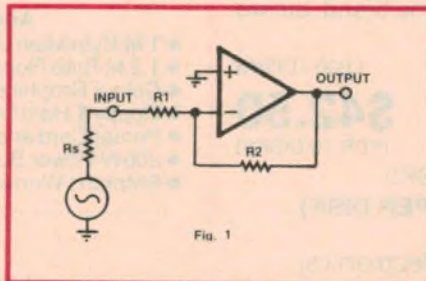
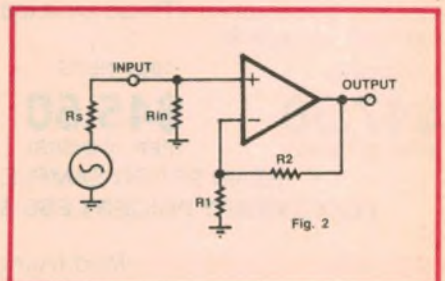

Fig.1: inverting op amp stage.
Fig.2: non-inverting op amp stage.
The input resistance has to be determined from the circuit of the gain stage in question and here a little analysis is needed. Note that the input resistance is not the same as the input impedance for the circuits of Fig.1 and Fig.2.
There are two common types of op amp gain stages: (1) the inverting stage as shown in Fig.1; and (2) the non-inverting stage as shown in Fig.2. The input impedance of the inverting type is equal to  $R_1$ , while the input impedance of the non-inverting type is equal to  $R_{in}$
Don't worry if your circuit has capacitors in series with the input or feedback ground (Fig.2) as normally these can be neglected.
In Fig.1, the input resistance is equal to  $R_1$  in parallel with  $R_2$ . If  $R_2$  is more than ten times  $R_1$ , then just use the value of  $R_1$ .
For Fig.2, the input resistance is the same as for Fig.1 (ie,  $R_1$  in parallel with  $R_2$ ), but if  $R_{in}$  is less than ten times  $R_1$  then calculate  $R_{in}$  in parallel with  $R_1$  and  $R_2$  as well. If there is a resistor in series with the input, add this to the input resistance.
In the case of normal amplitude modulation, every frequency component in the audio waveform generates a pair of these so-called "sidebands", one to either side of the carrier and displaced from it by an increment equal to the particular modulating frequency (Fig.2).
Fig.2: unlikely as it may seem an amplitude modulated waveform is made up of the original carrier plus pairs of sidebands, one pair for each frequency component in the audio signal.